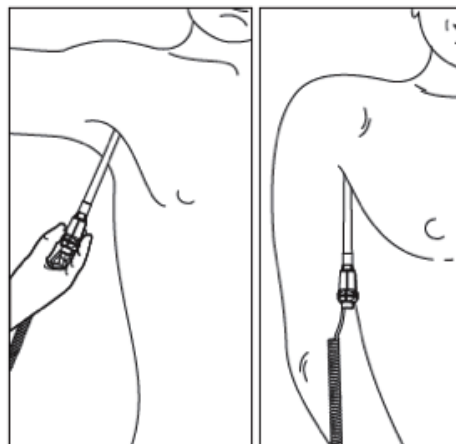

Figure 64. Filac 3000 Axillary Measurement
2. Have the user lower the arm and remain as still as possible. Hold the probe parallel to the arm as shown in Figure 64.